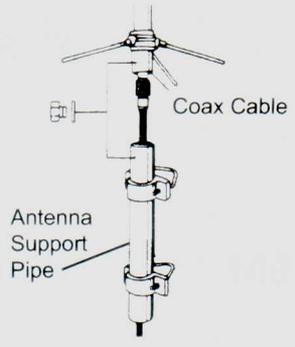

Figure 5
- (6) Before final installation, check VSWR on 2m & 70cm. (No adjustment is possible on these two bands.)
- (7) Attach mast brackets to Antenna Support Pipe. Pass the coaxial cable through the bottom of the Antenna Support Pipe. Connect coaxial cable to the feed point (Figure 5). Align hole on Antenna Support Pipe with threaded hole at bottom of antenna. Insert screw with lock washer and tighten (Figure 5).